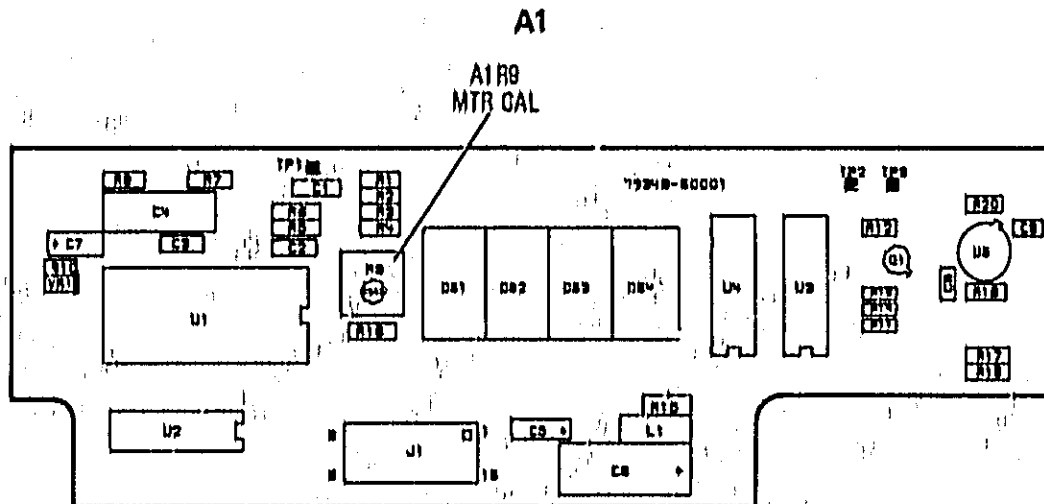

Figure 5-3. Display Zero Adjustment Location
8. Adjust A1R9 (MTR CAL) (see Figure 5-3) until the front panel POWER LEVEL display reads -00.0. Continue to adjust until the minus sign just blanks out.